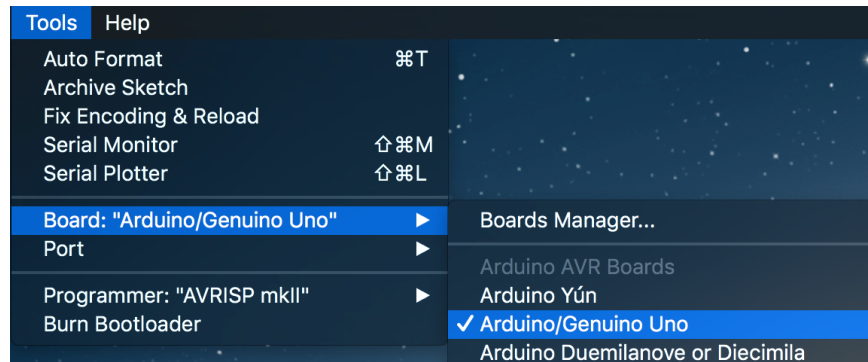

Figure 5. Arduino IDE Board Settings
a. Tools -> Board -> Arduino/Genuino Uno (Figure 5.).